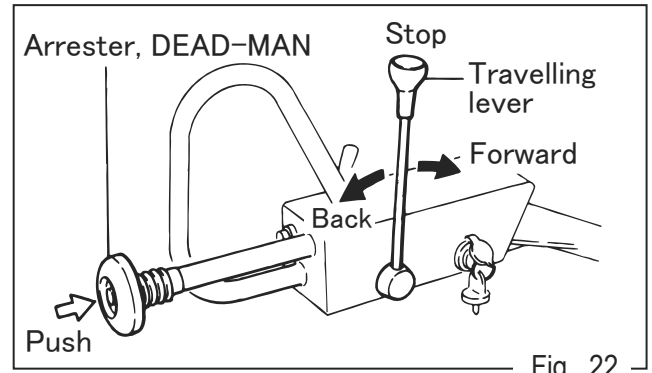

Fig. 22
- Pressing Arrester, DEAD-MAN provided while traveling in reverse, causes travel lever to return to neutral position to bring the machine to stop. (Fig.22)